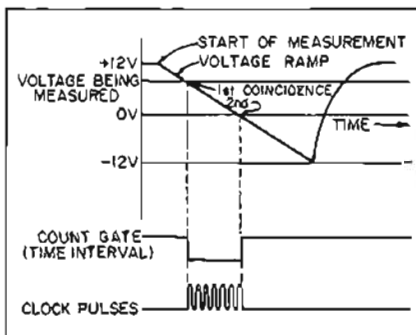

Figure 1. Voltage-to-time conversion.
**Ramp Types:** the operating principle of the ramp digital voltmeter is to measure the time a linear ramp takes to change from the input level to ground (or vice versa). This time period is measured with an electronic time-interval counter and displayed on in-line indicating tubes. The advantages of this type of instrument are low price and simplicity. Conversion of a voltage to a time interval is illustrated by the timing diagram in Figure 1. At the start of a measurement cycle, a ramp voltage is initiated. The ramp is compared continuously with the voltage being measured; at the instant they become equal, a coincidence circuit generates a pulse which